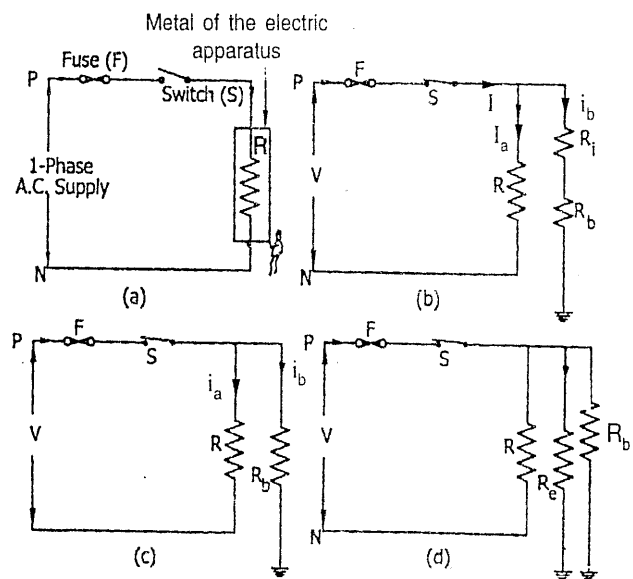

FIG. 5.17
- To illustrate the purpose of earthing, consider an electric circuit shown in Fig. 5.17 where an electrical appliance of resistance R is connected to the supply through a fuse and a switch.
- When the operator touches the metallic body of the apparatus [Fig. 5.17(a)] having perfect insulation, the equivalent circuit is shown in Fig. 5.17(b), where two parallel paths are formed.
- When earth fault occurs the live (phase) wire directly comes in contact with the outer body and the insulation resistance is reduced to zero as shown in Fig. 5.17(c). Now the body resistance is just in parallel with the appliance resistance. A heavy current flows through the human body and operator gets shock.
- However, if the metallic body or outer frame of the appliance is properly earthed, under this condition the circuit will be as shown in Fig. 5.17(d) where earth resistance R_e is just in parallel with the appliance resistance R and body resistance R_b .